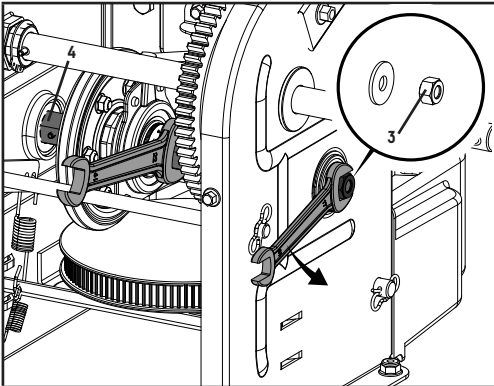

Figure 45
- Carefully remove the M10 hex nut (3) which secures the hex shaft (4) to the snowblower frame and lightly tap the shaft's end to dislodge the ball bearing from the right side of the frame (Fig. 45).